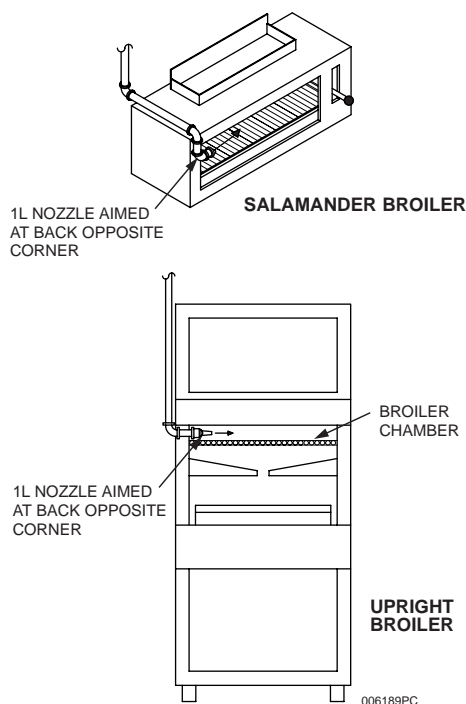

Figure 3-15.
The 1L nozzle, Part No. 551026, is used for broiler protection. This nozzle is a one (1) flow nozzle. The nozzle must be located above the grate, at the front edge of the appliance, outside the broiling chamber, and pointed at the back opposite corner of the broiler chamber. The nozzle must be aimed parallel to the broiler grate surface. See **Figure 3-15**.